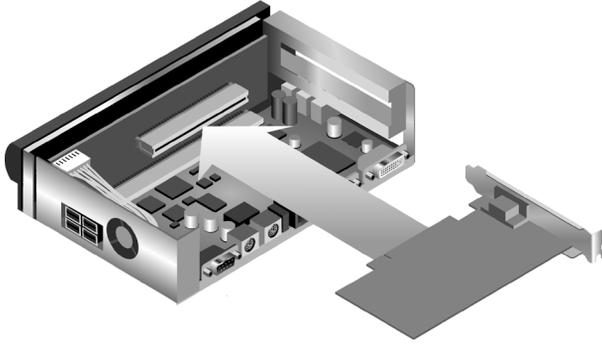

Figure 2.8: Installing a Third Party PCI Add In Card
5. Install your third party PCI Add In Card into the Desktop Appliance as shown in Figure 2.8, and secure it with the screw removed from the blanking plate.